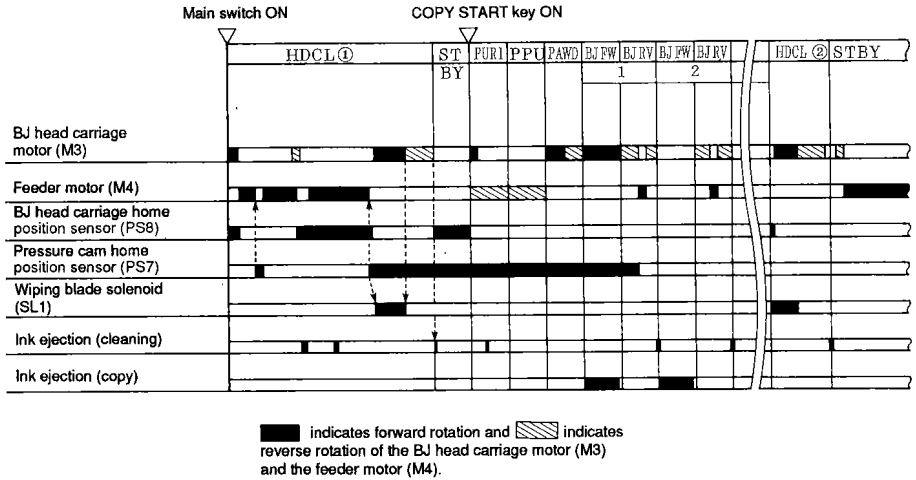

Figure 3-301 Image Formation System Sequence of Operations
HDCL ② (head cleaning ②)	between when copying operation is over and when head cleaning is over; the mode of head cleaning differs depending on the copy count set in the DC controller PCB. (What is given in Figure 3-301 is based on when the copy count is 20 or less; for details, see p. 3-55.)